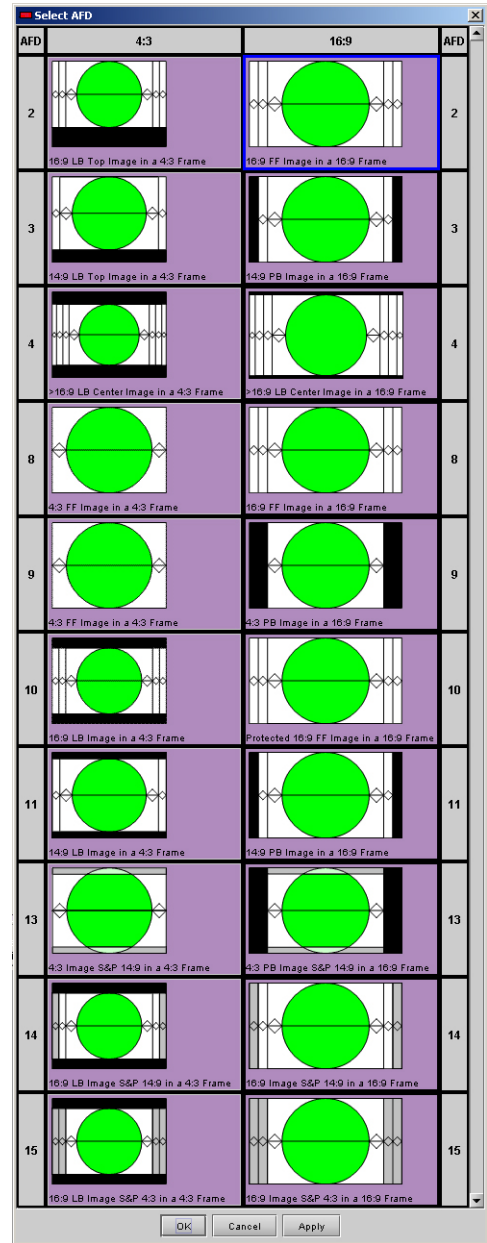

Figure 3.4 Select AFD window
- Click the Change button to open a window allowing you to select a different AFD on the output (see figure 3.4)